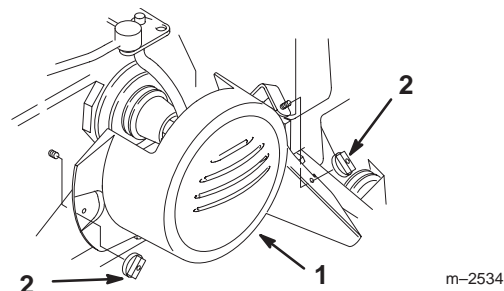

Figure 14
17. Remove the two wing nuts and belt cover from the tractor (Fig. 14).